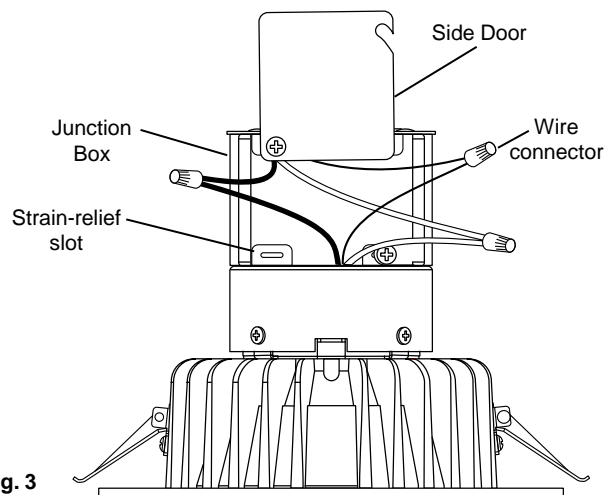

Fig. 3
Open the side door of the junction box. If you are using a BX cable, remove one of the round knockouts located on the top or sides of the junction box. If you are using NM cable, remove a rectangular knockout on the back of the junction box. Insert about 5 or 6 inches of the NM cable into the junction box through one of the provided strain-relief slots. (Fig. 3)
5. Remove at least 3" of the cable's outer sheath and remove the plastic or paper over-wrap. Strip approximately 3/8" of insulation from the ends of all supply wires. Using the wire connectors, make the following wire connections within the junction box (Fig. 3):